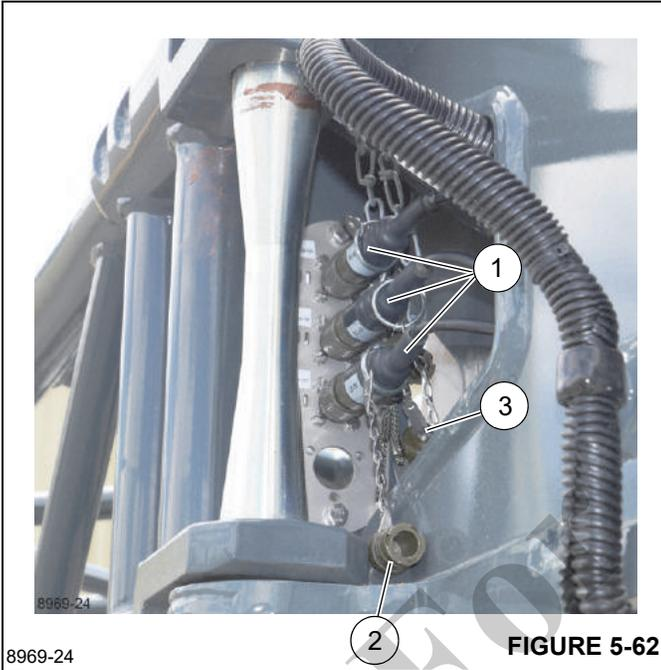

FIGURE 5-62
- a. Remove the plugs (1, Figure 5-62) from the sockets and seal the plugs with their caps (2). Seal the sockets with their caps (3).